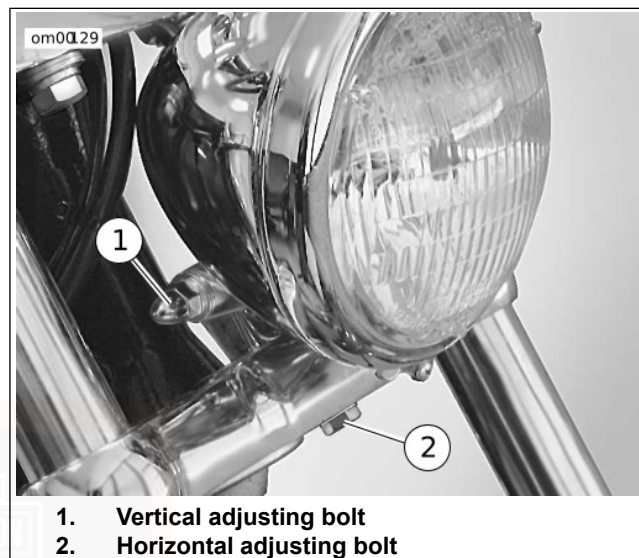

Figure 69. Headlamp Adjustment: FXSTD
1. See Figure 69. Loosen horizontal adjusting bolt (2) to adjust headlamp beam side to side.
3. Loosen vertical adjusting bolt (1) to adjust headlamp up or down.